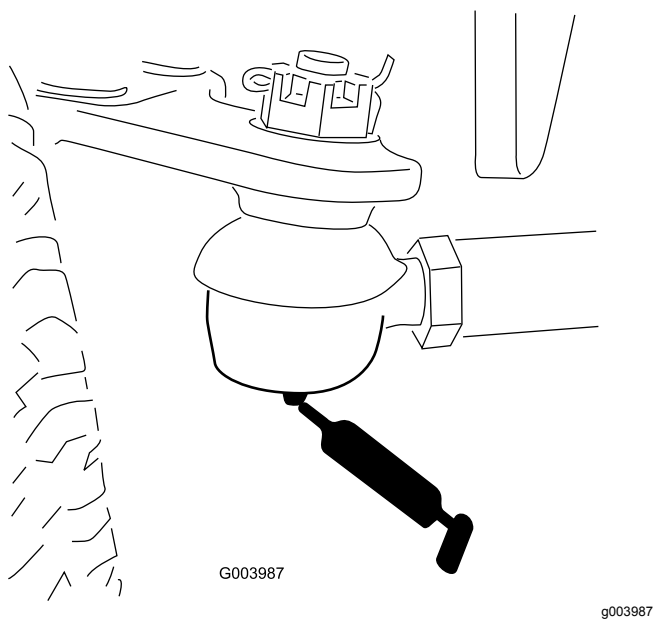

Figure 50
- Rear axle tie rod (2)—Figure 50